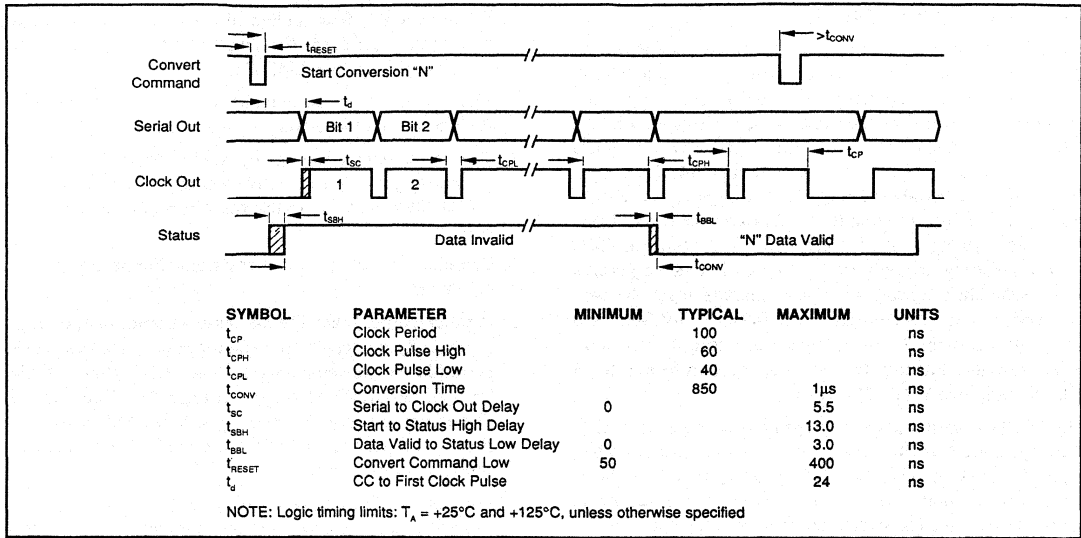

FIGURE 9. ADC601 Logic Timing Diagram.
The timing diagram (Figure 9) shows the relationship between the convert command, clock and outputs. The digital output word uses positive logic for bipolar operation and complementary logic for unipolar operation.
The following are some important points to consider on the ADC601 timing. The times given are typical unless otherwise noted. Nominal maximum and minimum times are also given in Figure 9.
5. Parallel Output Data: The successive approximation register (SAR) is reset after the leading edge of the first clock period in the conversion cycle. The MSB is set to logic "0" and all other bits are set to logic "1". The bits are determined in succession starting with the MSB, Bit 1, as shown in Figure 9. Each bit will be valid after its corresponding clock pulse.